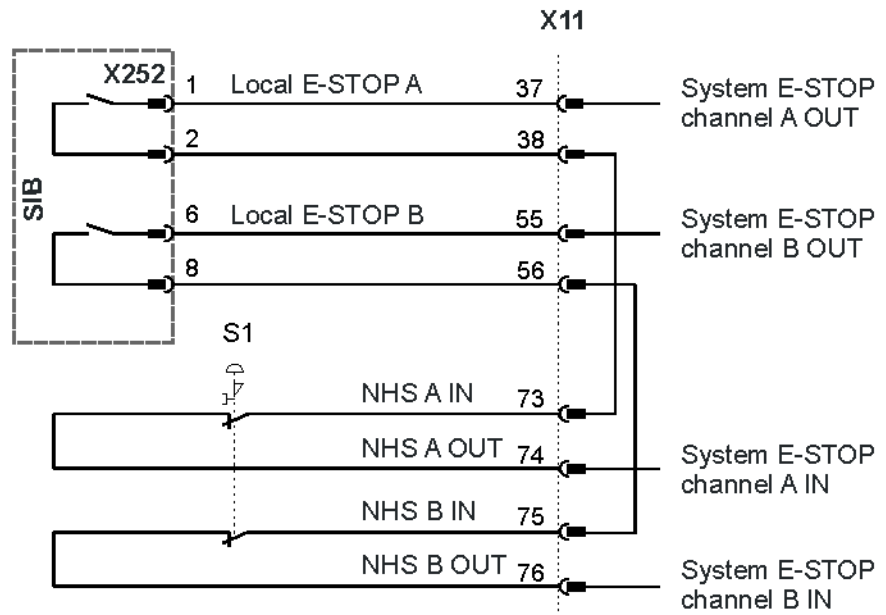

Fig. 6-9: EMERGENCY STOP device, series connection
**Circuit example, series connection** The figure (>>> Fig. 6-9) shows a circuit example of the EMERGENCY STOP device connected in series.